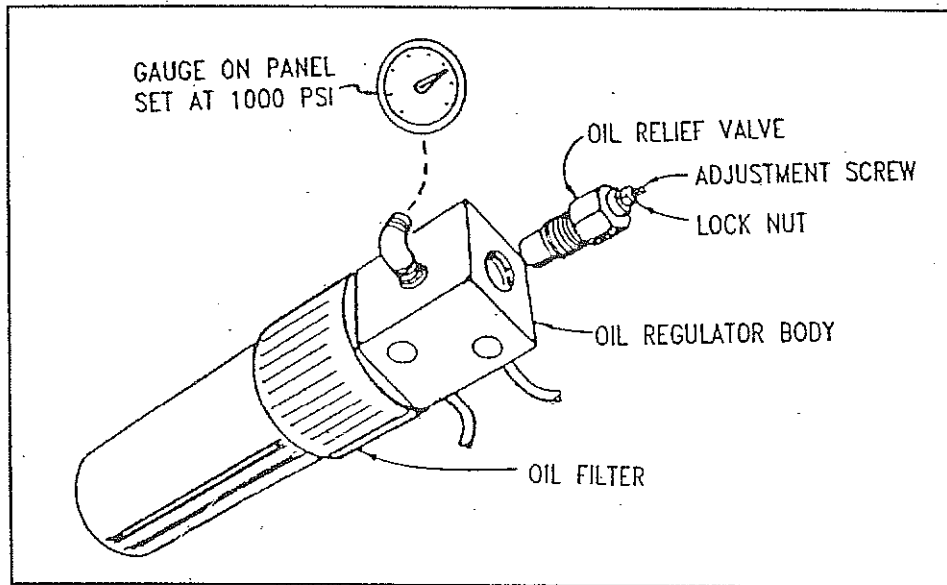

FIGURE 9-4 OIL PRESSURE REGULATOR
The oil pressure regulator is mounted on the final stage cylinder and is adjusted to 1000 to 1050 PSIG on four stage machines (see Figure 9-4). The regulator may be adjusted by loosening the lock nut in the rear and turning the set screw. Adjustment should be made with the compressor in operation.
1. With the machine running, loosen the lock nut shown in Figure 9-4.